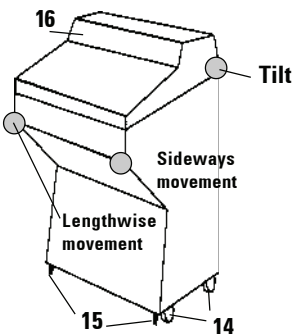

Fig. 4
- Move the instrument to the installation site on its wheels (14). Please note the areas which are reinforced for transporting and grip the cabinet only at these locations (Fig. 4).
- The adjustable feet (15) can support the weight of the instrument when tipping at a slight angle (max. 30 °).
- At the installation site unscrew the screws in the adjustable feet (15) using a fork wrench. This is necessary to ensure stability.